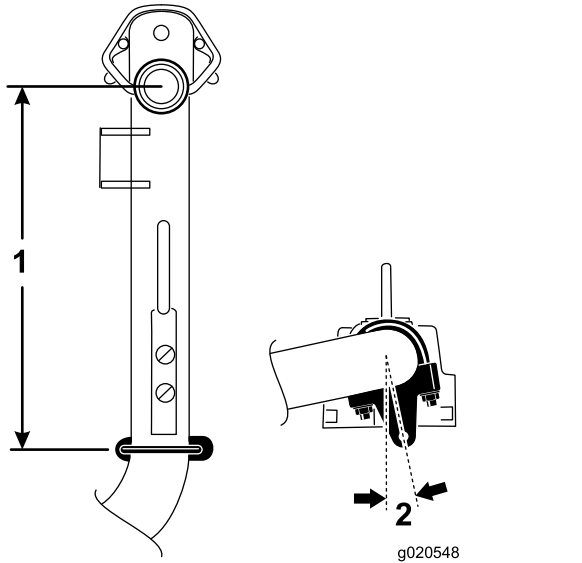

Figure 7
5. On lift arm number 6 and number 7, position the brackets and U-bolts 36.8 cm (14.5 inches) behind the center line of the pivot knuckle (Figure 7).